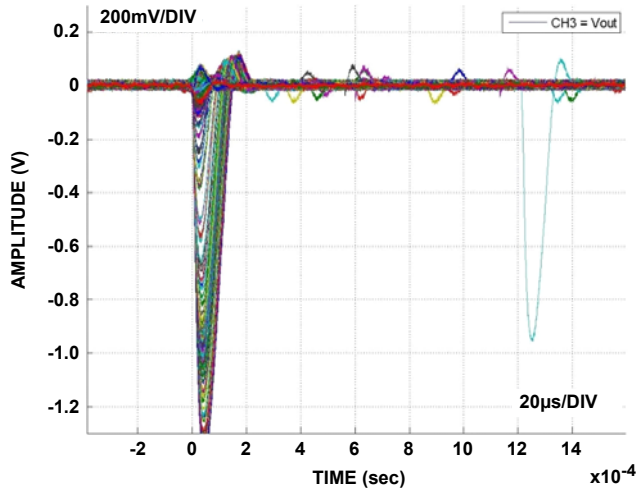
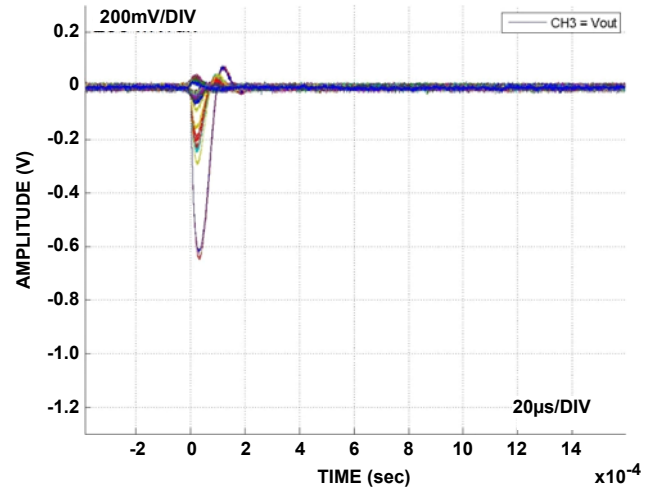

FIGURE 22. COMPOSITE SET PLOT FOR ISL71090SEH75 AT LET 28
FIGURE 23. COMPOSITE SET PLOT FOR ISL71090SEH75 AT LET 2.7
Figure 22 shows a composite of large negative going SET for DUT1 run 314. The worst of these SET bottom out at about -1.4V deviation. These are about 175 $\mu$ s at return to cross nominal before overshooting about 100mV. Certainly not all of the SET are this severe, but a good number are. Even at LET of 2.7MeV $\cdot$ cm2/mg (DUT1 run 114) Figure 23 shows a few SET to
-600mV. Clearly the part is sensitive to lower LET ions. Comparing Figures 22 and 24 shows the impact of going to larger capacitors ( $C_{OUT}$  from 1 $\mu$ F to 10 $\mu$ F and  $C_{COMP}$  from 1nF to 10nF). The change reduces worst SET for LET 27 deviations from -1.4V to 0.18V, though the recovery time is considerably stretched out.
The SET exhibited by the ISL71090SEH50 fall into two basic categories; fast negative spike and slow negative ramp and recovery similar to the 7.5V reference. The fast spikes can be as large as 800mV for LET 56 and  $V_{IN} = 30V$ . Under the same conditions the slow (20 $\mu$ s) negative ramp can reach 300mV. The disturbances can take significantly over 160 $\mu$ s to recover. Even at LET = 8.5MeV  $\cdot$  cm2/mg (Figures 23 and 24), there are SET of approximately 200mV.